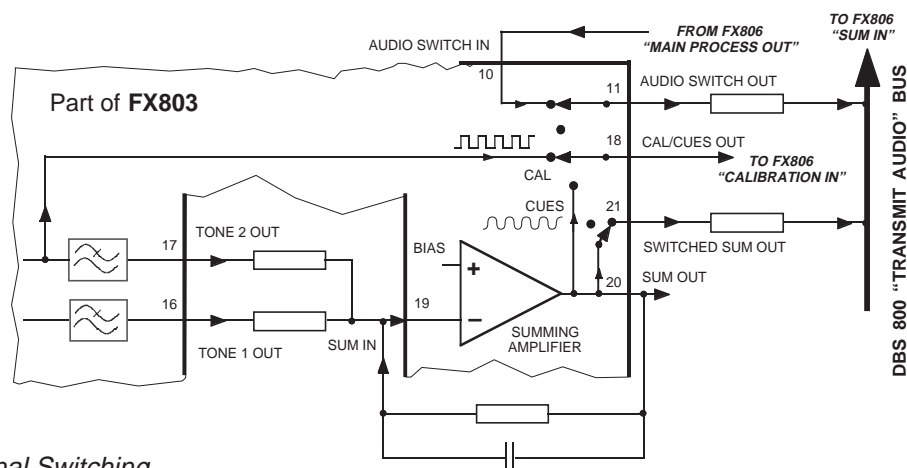

Fig.3 Output Signal Switching
3. Resistors marked with an asterisk (*) are System Components, calculated to operate in a system with other DBS 800 microcircuits. Figure 3 shows in detail, these components used in the System signal paths.
See the Signal Switching diagram (Figure 3) and DBS 800 Document for application examples.
To break the FX803 drive to the FX806 PLMR Audio Processor (see Figure 3, Signal Switching).